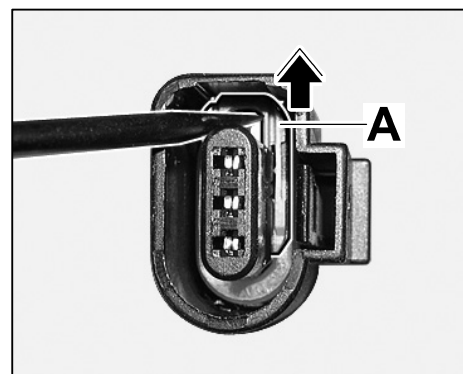

Figure 30
- 4.7 Connect BU/YE lines (retrofit kit) to the connector for the air-conditioning pressure switch $\Rightarrow$ Figure 30 **-A-**.
- 4.7.1 Pull off connector for air-conditioning pressure switch and open secondary lock ⇒ *Figure 30 -A-*.